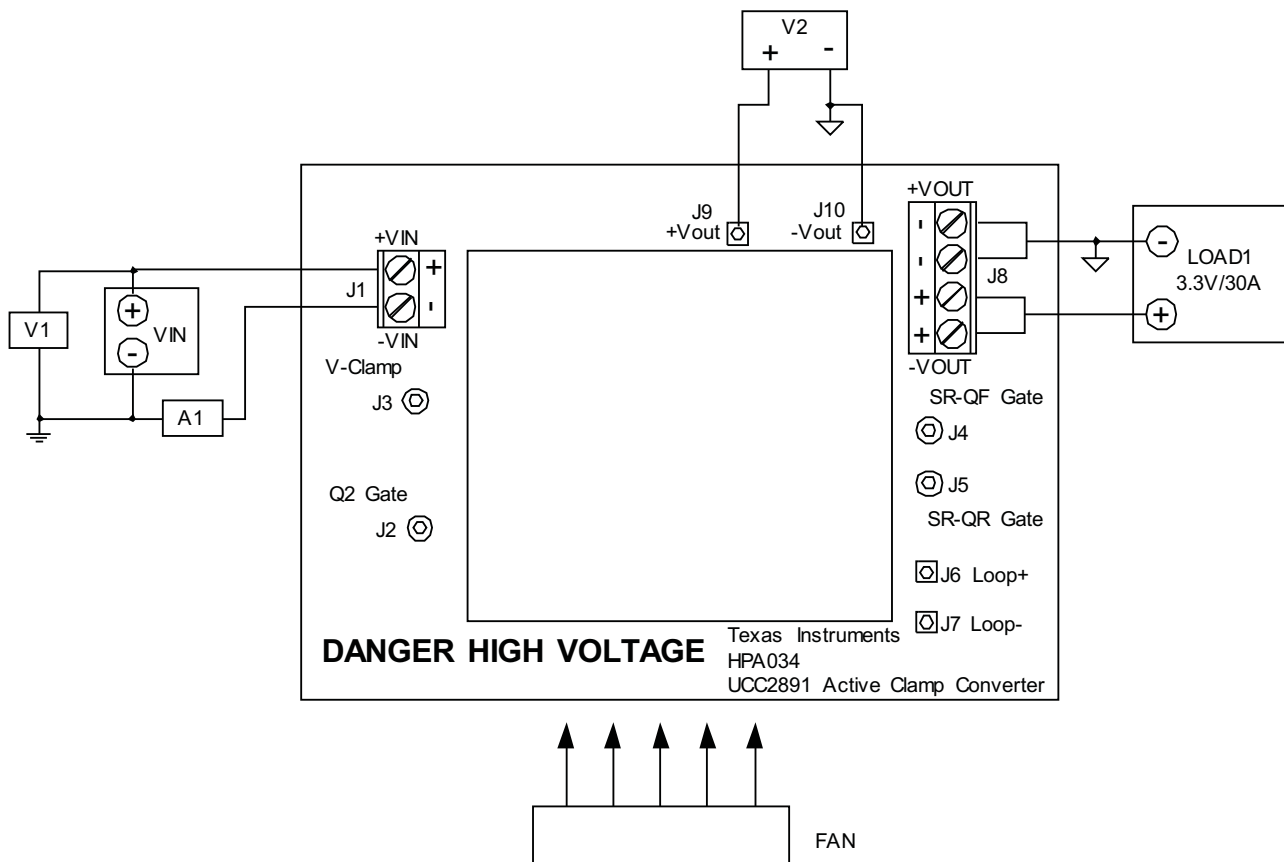

Figure 2. Recommended EVM Test Configuration
Figure 2 shows the basic test set up recommended to evaluate the UCC2891EVM.
The input voltage is a variable DC source capable of supplying between  $0V_{DC}$  and  $72V_{DC}$  at no less than  $3.5A_{DC}$ , and connected to J1 and A1 as shown in Figure 2. For fault protection to the EVM, good common practice is to limit the source current to no more than  $4A_{DC}$  for a 36 V input. A dc ammeter, A1 should also be inserted between VIN and J1 as shown in Figure 2.
2. Prior to connecting the DC input source, VIN, it is advisable to limit the source current from VIN to 3.5-A maximum. Make sure VIN is initially set to 0 V and connected to J1 as shown in Figure 2.
3. Connect the ammeter A1 (0A to 10A range) between VIN and J1 as shown in Figure 2.
4. Connect voltmeter (can optionally use voltmeter from VIN source if available), V1 across VIN as shown in Figure 2.
5. Connect LOAD1 to J8 as shown in Figure 2. Set LOAD1 to constant current mode to sink 0 ADC before VIN is applied.
6. Connect voltmeter, V2 across J9 and J10 as shown in Figure 2.